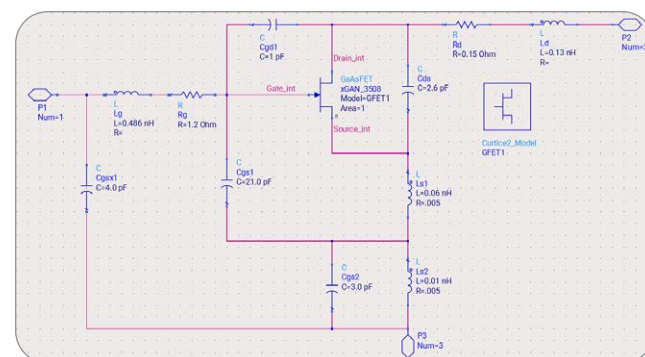
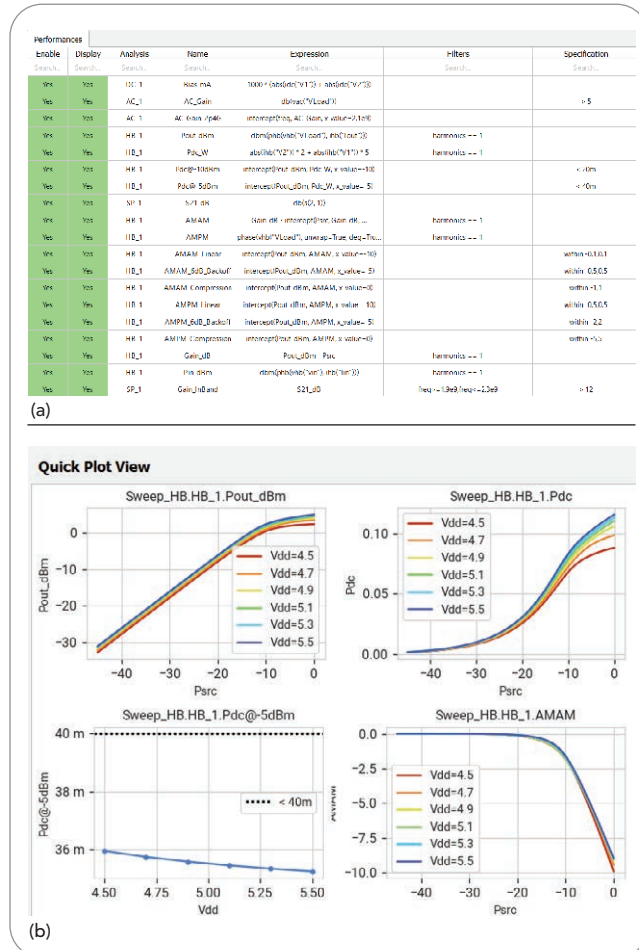

Fig. 2 An intrinsic-node GaN transistor model with a current generator and parasitics, represented in ADS.
Fig. 3 (a) Expressions evaluated during analyses in simulations, and (b) Python filters on curves in displayed results.
Keysight EDA organizes its AI strategy around three moves, each tied to a business driver engineering leaders already track. Rather than a single monolithic “AI project,” the framework lets an organization assess where it stands on each dimension and invest accordingly. The moves run in parallel and reinforce one another: captured workflows become the raw material for orchestration, and faster physics makes orchestrated exploration worthwhile. (See **Figure 2**)
▲ **Fig. 2** The three moves and the business driver at each address. All three can begin in parallel. (Adapted from “Move Your AI Program Forward in 3 Key Areas.”)
In contrast, intrinsic design methodologies analyze voltages and currents at internal device nodes rather than at terminals. By working closer to the intrinsic current generator, designers can directly observe waveforms that are typically masked by device parasitics. This perspective provides deeper insight into transistor operation and enables the evaluation of key PA performance metrics. **Figure 2** shows a schematic of a conceptual, non-process-specific GaN transistor with its intrinsic device nodes explicitly exposed.
The PA design bench schematic in ADS, as seen in **Figure 3**, mimics a load-pull measurement system.³ It includes harmonic tuners, bias networks and receivers for the A (incident) and B (reflected) waves, enabling a complete analysis of PA metrics. The device under test (DUT) is the GaN FET model shown in Figure 2.
▲ **Fig. 3** PA design bench schematic in ADS using the GaN FET model.
- **Pre-Processing for Defining Sweeps, Optimization and Visualization:** Fine-grained parameter control of simulations via a user interface is necessary, but is not enough to make simulations more efficient. Users commonly apply post-processing for data display to extract and visualize subsets of data (for instance, zooming in on a range of frequencies), yet the simulation runs across the entire data set. Pre-processing could define reusable expressions evaluated during simulation, in analyses or tasks, with enhanced Python filtering capability for results (see **Figure 3**). Automatically tying simulation pre-processing to optimization and plotting could also save more steps in the workflow.